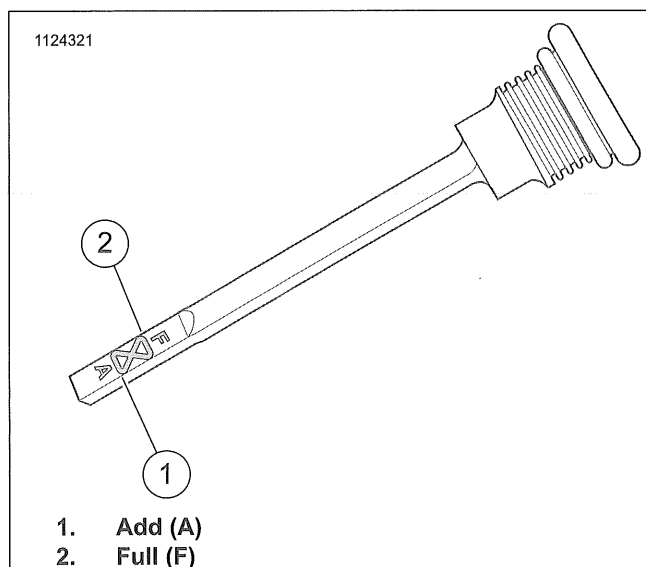

Figure 2-10. Transmission Lubricant Level
5. See Figure 2-10. Remove filler plug/dipstick. Check lubricant level on dipstick. Proper oil level is between the Add (A) (1) and Full (F) (2) marks.
6. Check lubricant level. Add enough lubricant to bring the level between the add (A) and full (F) marks. See Figure 2-10.